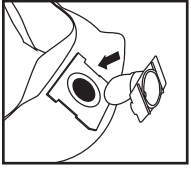

FIGURE 25
34. Position the inlet deflector with the opening facing the left or the right side of the filter bag. Slide the filter bag collar over the inlet deflector, matching the notches of the bag collar to the tabs on the inlet deflector. Bag will only fit properly one way. **FIGURE 25.**